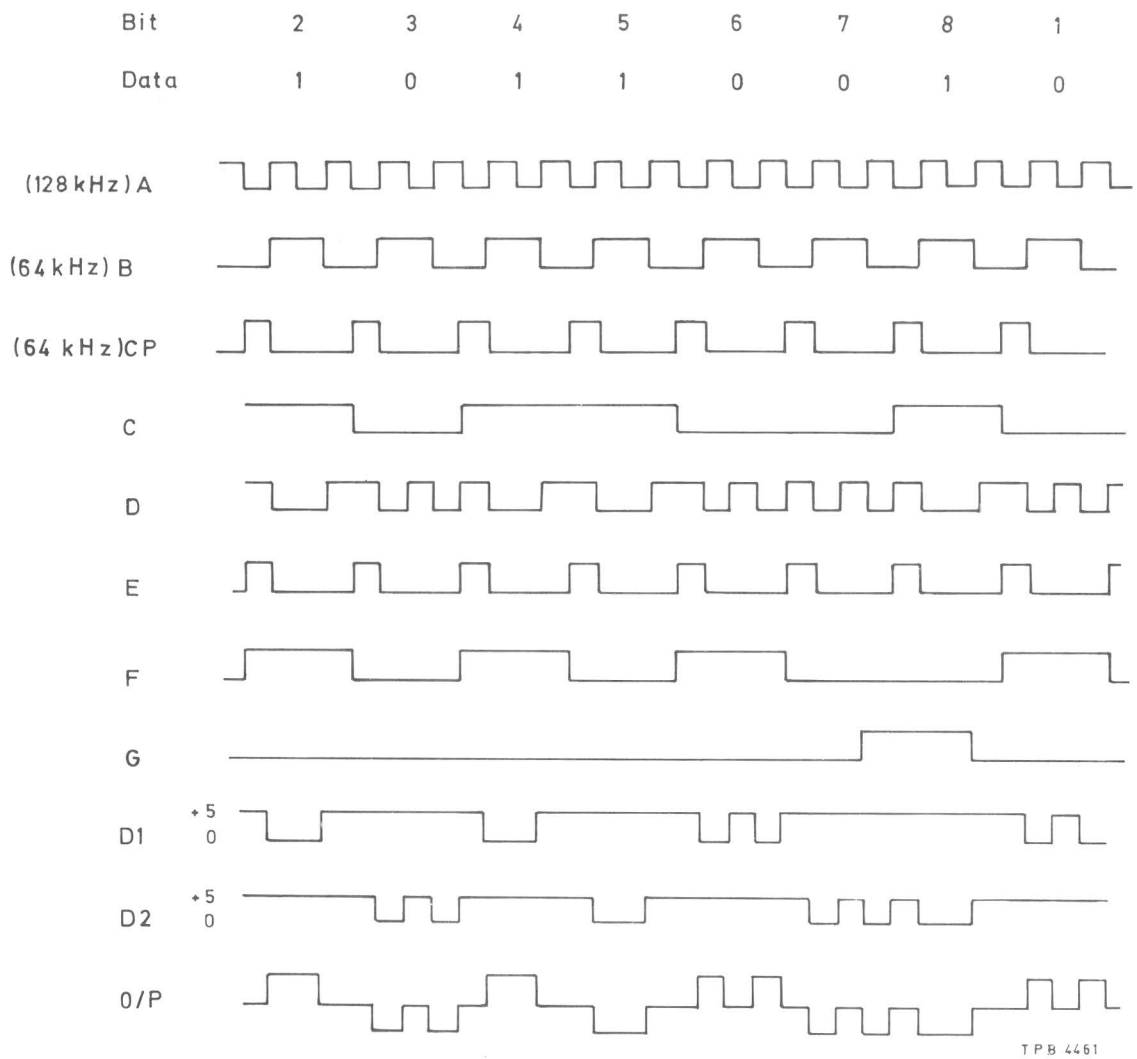

Fig. 8 Timing diagram for 64 kbit/s encoder on AA3 board
27. The following description may be read in conjunction with timing diagram Fig. 8. Timing signals $\overline{\text{RMSC}}$ and RMSD designated A and B from exclusive-OR gate outputs IC22a and IC22b are routed to AND gates IC21b and IC21c. The time-slot data from IC23a/2 designated C and \overline{Q} outputs are AND gated with signals A and B and NOR gated by IC20c. NOR gate IC20c selects \overline{A} signal when C is low and \overline{B} when C is high, producing signal D. The 64 kHz clock pulse CP is AND gated with D by IC21d producing E which clocks bistable IC23b. The outputs from IC23b of \overline{Q} and Q (denoted by signal F) toggle when clocked by E and are OR gated with signal D by IC24a and IC24b. On the 8th clock pulse E, AND gate IC21a output goes high producing G which enables new data from the last frame to be latched into shift register IC18. The G pulse is exclusive OR gated by IC22d with output \overline{Q} of IC23b and routed to the D input of IC23b. For either logic state of \overline{Q} , IC23b \overline{Q} and Q outputs are prevented from changing on the next clock pulse E, thereby introducing the 8th bit violation in the 64 kbit/s encoded signal. When frame alignment has been lost, IC11/20 goes high and effectively disables NOR gates IC24a and IC24b by forcing both outputs to a high level.